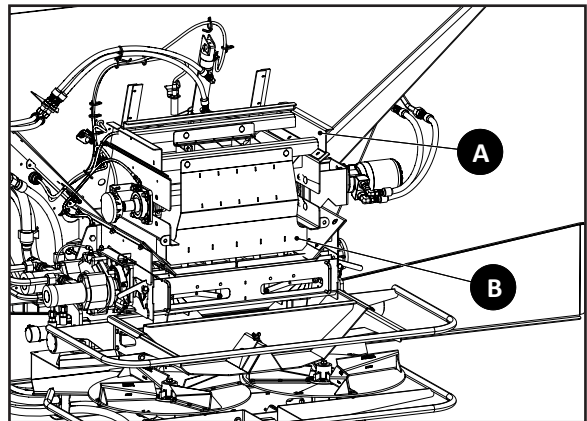

Figure 1 - MultiApplier Hillside Divider
- Figure 1 - Install MultiApplier Hillside Divider Support (A) and fasten to MultiApplier by reinstalling chain shield hardware. Slip MultiApplier Hillside Divider (B) up into place and loosely install supplied hardware.